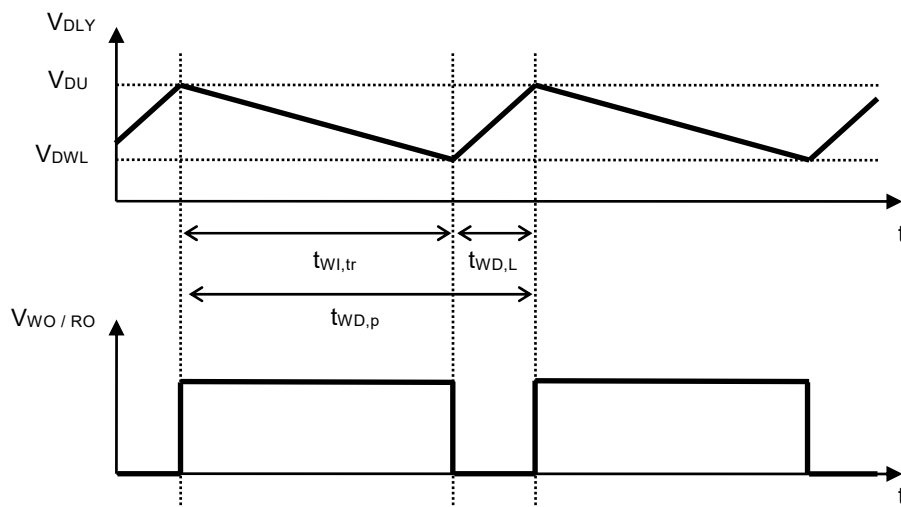

Figure 8
*1. The period of the continuous rectangular wave that appears in the WO / RO pin when the watchdog timer repeats the detection of a time-out (Refer to **Figure 8**). It is calculated by using the following equation.
*2. The time when the WO / RO pin continues "L" after the watchdog timer detects a time-out (Refer to **Figure 8**).
*3. The time from when the watchdog timer initiates the detection of a trigger signal to when a time-out is detected and the WO / RO pin output changes to "L" (Refer to **Figure 8**). This value changes according to C_{DLY} .